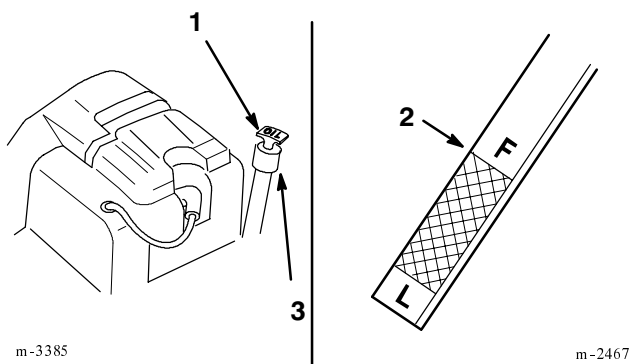

Figure 21
3. Clean around the oil dipstick (Fig. 21) so dirt cannot fall into the filler hole and damage the engine.
4. Pull the oil dipstick out and wipe the metal end clean (Fig. 21).
5. Push the oil dipstick fully into the filler tube (Fig. 21). Pull the dipstick out and look at the metal end. If oil level is low, slowly pour only enough oil into the filler tube to raise the level to the "FULL" mark.
6. Slowly pour approximately 80% of the specified amount of oil into the filler tube (Fig. 21). Now check the oil level; refer to Checking Oil Level, page 20. Slowly add additional oil to bring to "FULL" mark on dipstick.